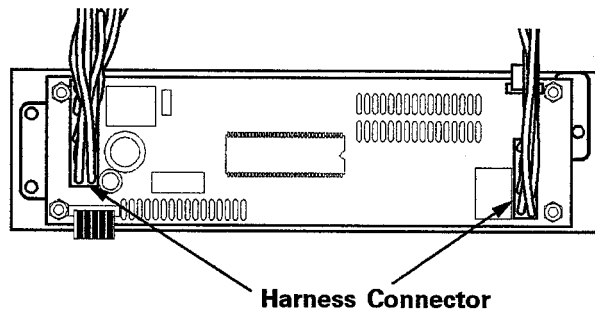

Figure 2-67
4. Observe the position of the harness connector plugged into the microprocessor board, *see Figure 2-67.*